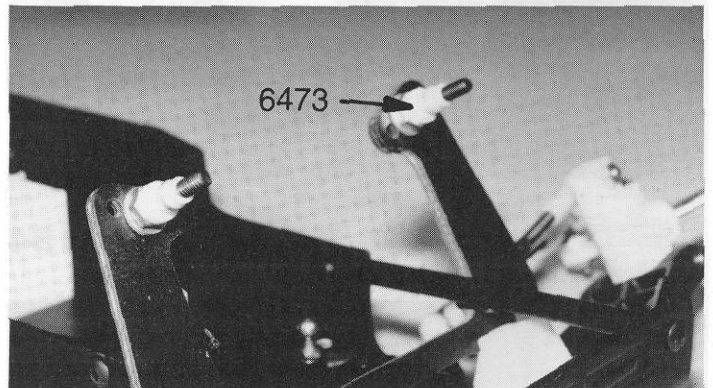

Fig. 132
□ **Fig. 132** Take the two #6473 nylon shock bushings from bag #6-10 and install them onto the front shock mounting screws, the flange of the bushing toward the nut.